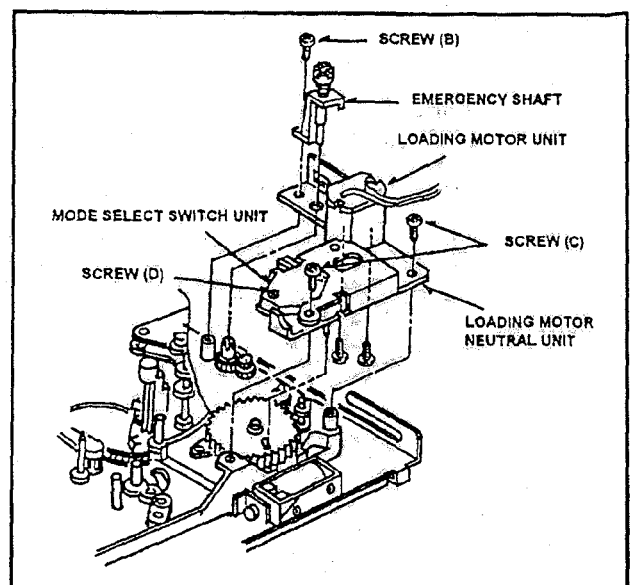

Fig. M12
3. Remove the Pinch Solenoid Unit and Loading Motor Neutral Unit (Refer to item 4 to 6).
4. Remove the screw (D) to remove the Mode Select Switch Unit from Loading Motor Neutral Unit as shown in Figure M12.